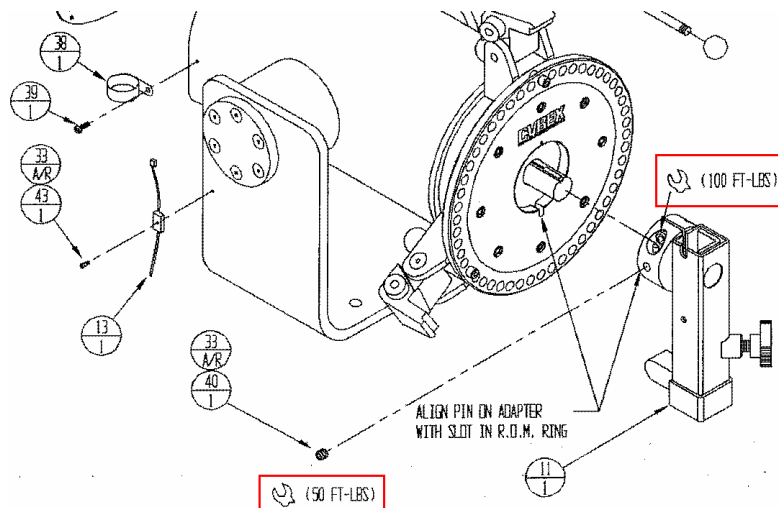

Figure 9 Input Adapter Installation Torque
- 2.28. Tighten the large input adapter bolt to 100 FOOT-POUNDS (135 NEWTON-METERS) (Figure 9).
- 2.29. Apply blue Loctite to the input adapter set-screw and tighten to 50 FOOT-POUNDS (67 NEWTON-METERS). (Figure 9, Items 33, 40).